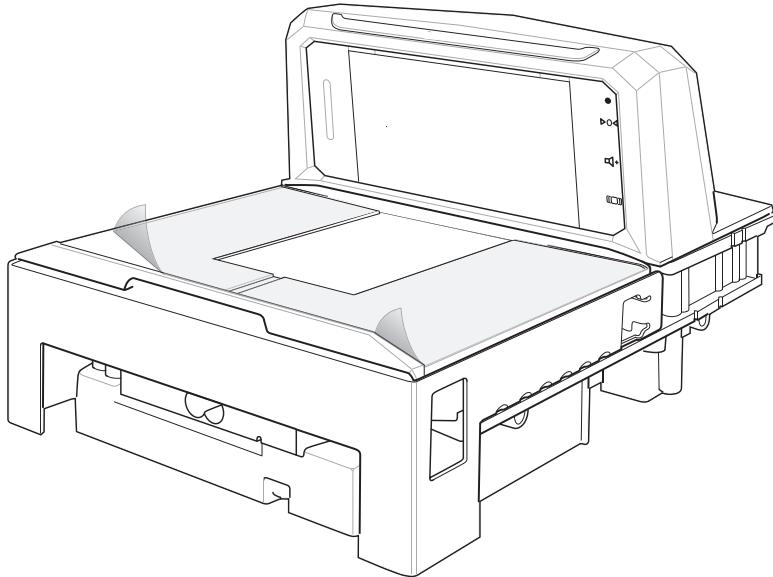

Figure 3-4 Platter Protector
2. For added protection during shipment, the MP6000 platter is covered with a tight fitting layer of plastic as shown in *Figure 3-4*. This plastic layer must be removed before placing the unit into service. (In the case of a scale model, just before scale calibration; and, in case of a non-scale model, as the final step of installation)